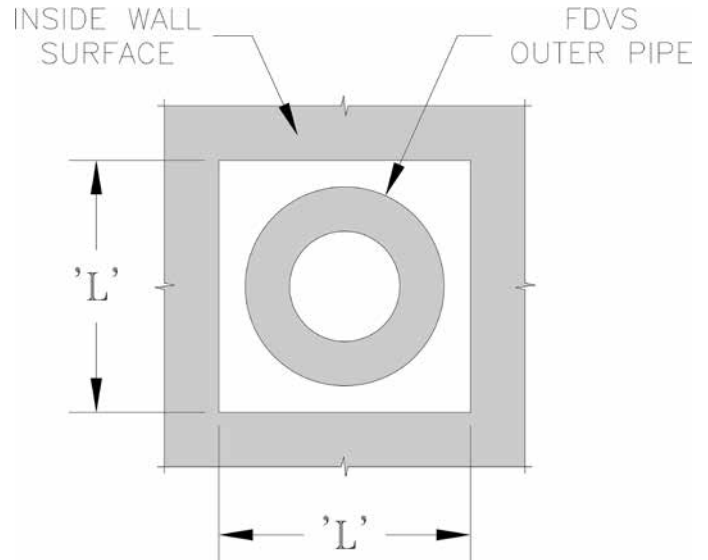

Figure 17: Wall Cutout Dimensions
5. After determining the location of the venting system termination, cut the square hole in the wall sized according to "L" dimension in Table 5, see Figure 17.